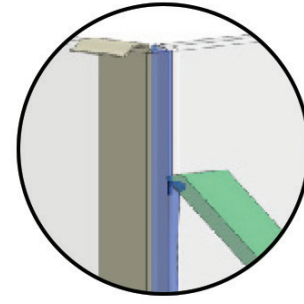

FIG 13.
- Spray channels and glass with slightly soapy water then use spatula provided to clean off excess silicone (FIG 13). Repeat this process 3 times. Use minimal water then wipe off with paper towels. Tough Wipes or Baby Wipes are also good to use for this.